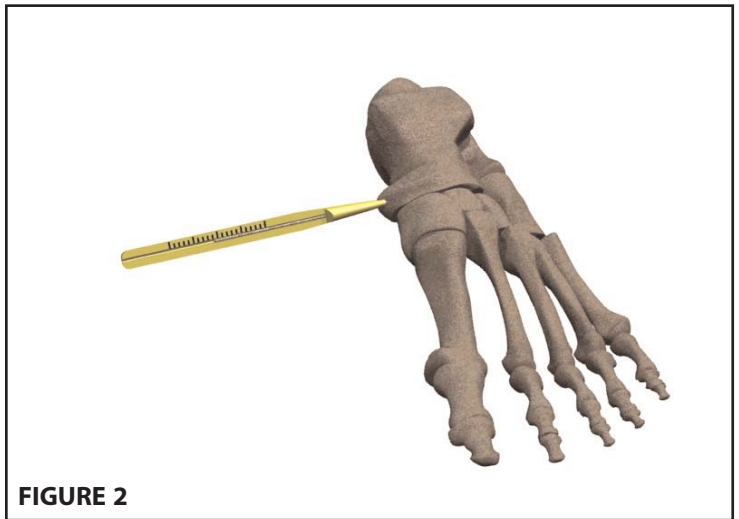

FIGURE 2
- 3 Place the depth gauge (909-0000) over the guide wire and note the length of the implant. The surgeon should deduct 2mm from the measured length to assure complete burial of the implant head. **FIGURE 2**